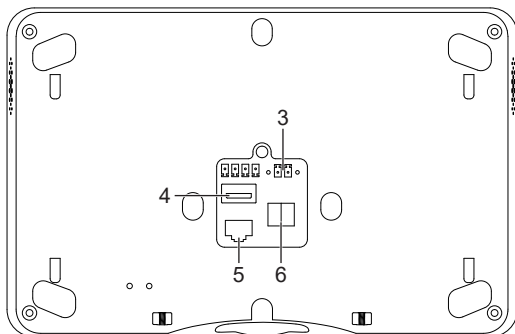

Fig. 3: Connection
- Connect the power supply (3) and KNX (6). (fig. 3)
- Connect LAN (5) optionally.